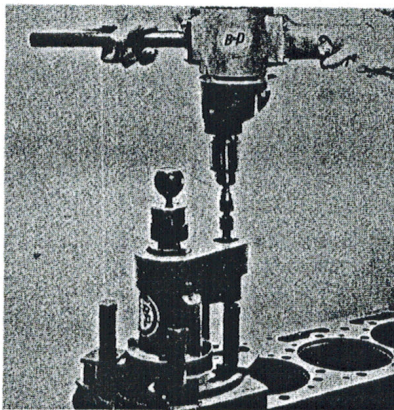

Fig. 9 Starting the Bore Cut
10. With the hand drill on the universal drive adapter (40) commence boring the machine freewheels (approx. 2 minutes). About half-way down during the cut the cutter begins cutting out the old counterbore ledge. The operator should have a firm grip on the hand drill to be prepared for the increased load on the hand drill from the added metal being cut. Stop immediately when the cutter freewheels or some chatter may occur. (See Fig. 9).